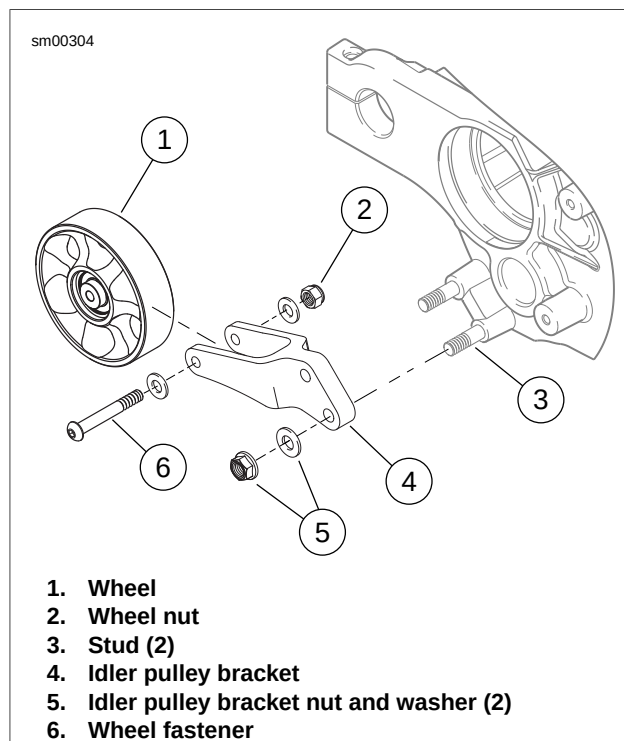

Figure 6-99. Idler Pulley Assembly
4. See Figure 6-99. Remove pulley and bracket. See 6.6 DRIVE BELT AND IDLER PULLEY.
5. Inspect pulley by spinning wheel (1) and checking for excessive wheel bearing wear. See 1.9 DRIVE BELT MAINTENANCE, Inspection.
6. If pulley wheel needs replacement, remove fastener (6) and nut (2) from idler pulley bracket (4) and discard. Replace with **new** pulley wheel (1).